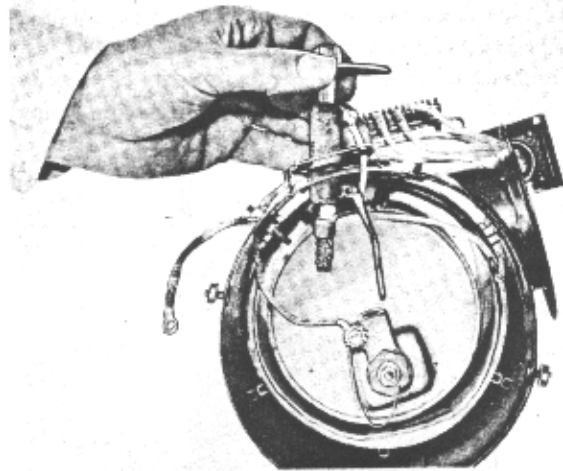

Figure 41
3. Lift the standpipe and resistor out through the top of the heater case (Figure 41).